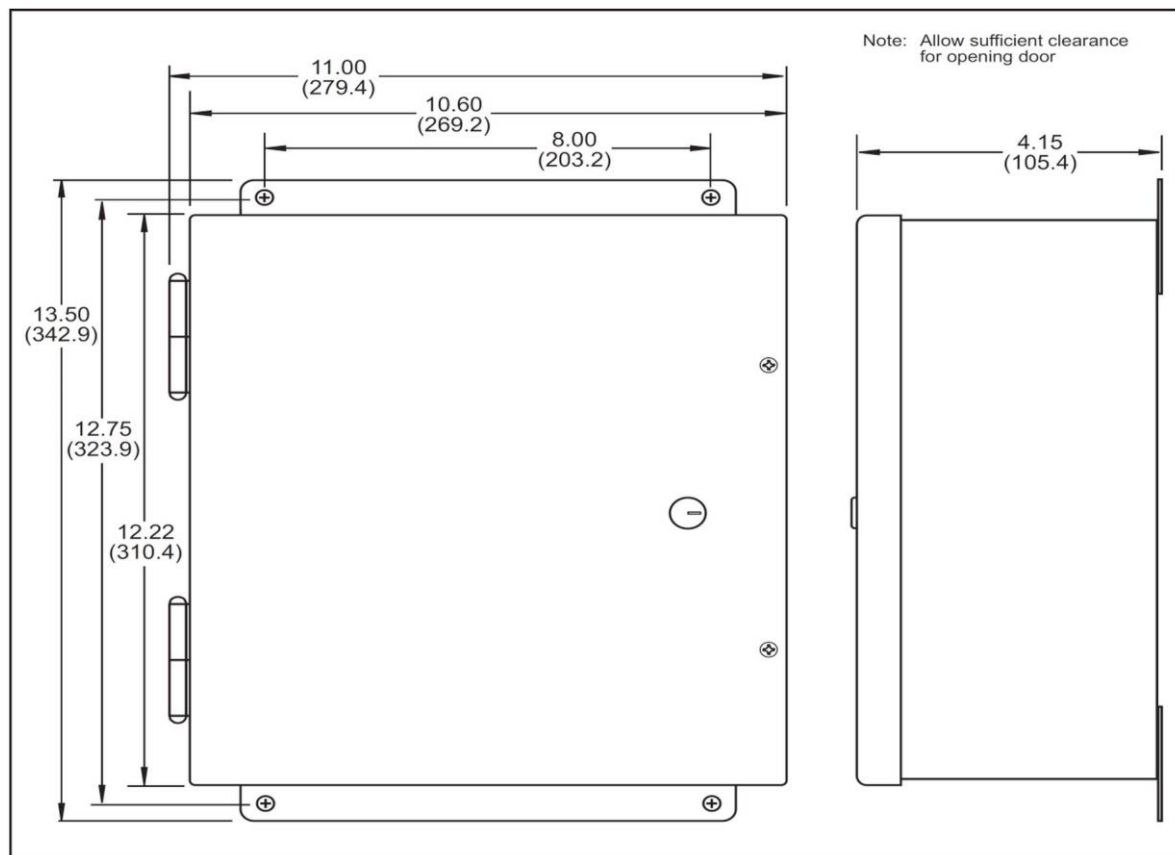
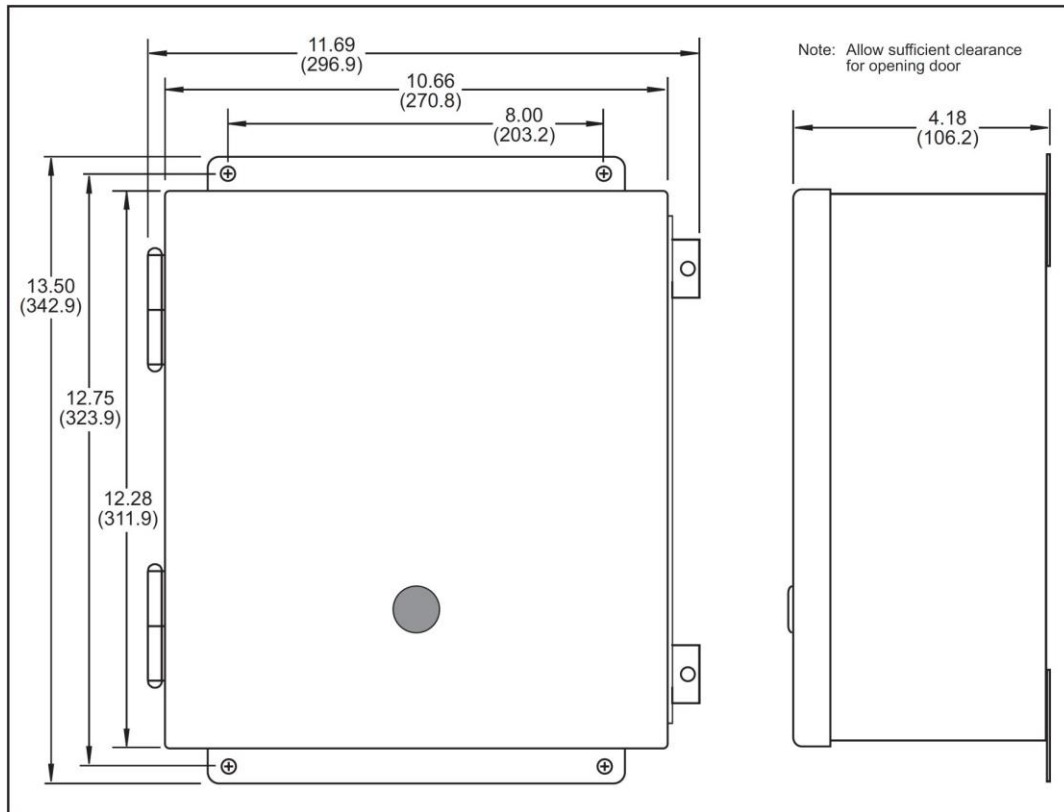

Figure 2-1. AutoSetPAC Enclosure: Mounting Dimensions
Figure 2-2. AutoSetPAC Enclosure with AutoSet 4-Channel Display: Mounting Dimensions
2. Drill holes for mounting, referring to Figure 2-1. Tap holes and mount the enclosure, using the enclosed shock mounts. Shock mount studs are 1/4–20. Use a No. 7 drill and 1/4–20 tap.
2. Drill holes for mounting, referring to Figure 2-1. (AutoSet 2-Channel and standard AutoSetPAC enclosures have identical dimensions) and Figure 2-2. Tap holes and mount the enclosure, using the enclosed shock mounts. Shock mount studs are 1/4–20. Use a No. 7 drill and 1/4–20 tap.